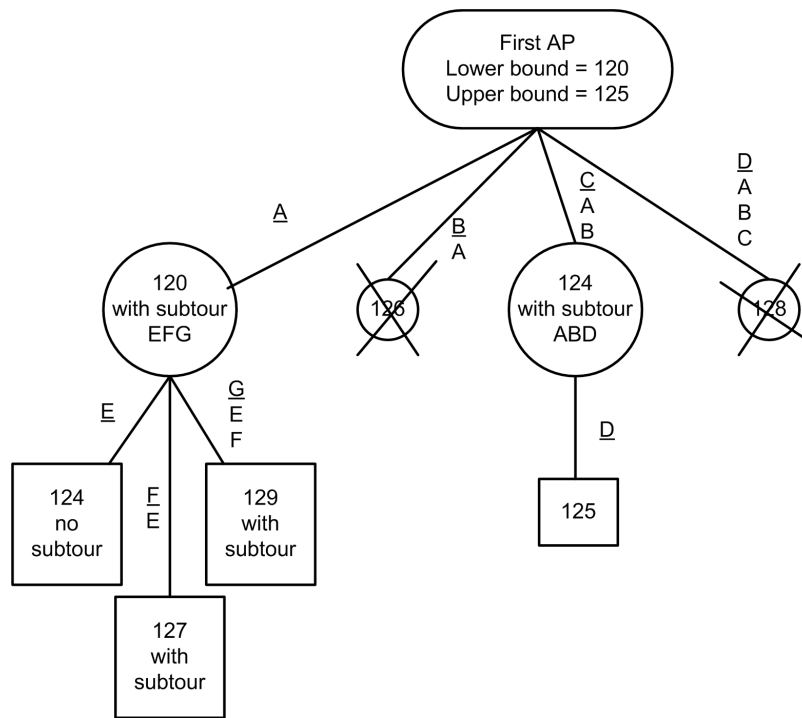

Figure 1.6: Branching II
6. Solve the AP corresponding to each subtour. Kill any branch whose  $z \geq \bar{z}$  see figure 1.6